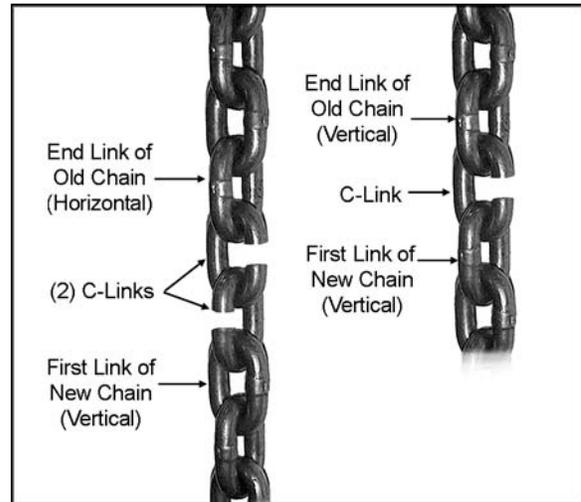

Figure 15
Vertical and horizontal are determined from the relationship with the load sprocket. Vertical links will be guided by the center slit in the load sprocket. Horizontal links will engage in the oval pockets on the sprocket. See Figure 15.
4. Using a C-link(s), connect the new chain to the old chain. If the end link of the old chain is horizontal, use two C-links. If the end link of the old chain is vertical, use one C-link See Figure 15. Using the correct number of C-links will properly orient the chain, and ensure that first link on load side end is a horizontal link.